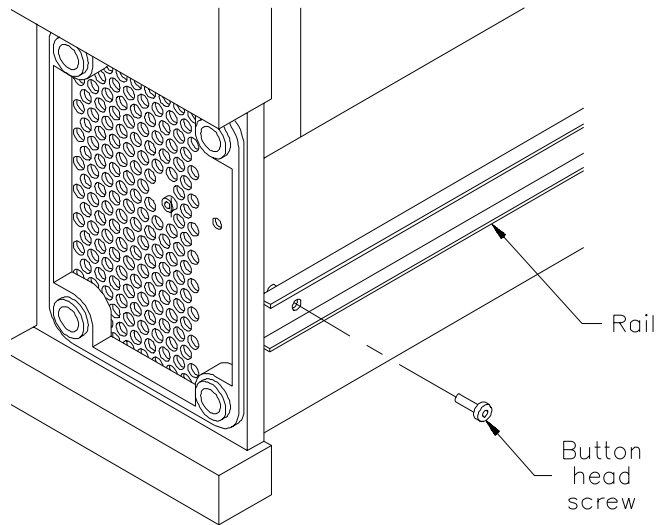

Figure 1-7 Attaching the screws to the sides of the library
6. Install one $8-32 \times \frac{7}{16}$ button head screw into the screw hole on each rail, as shown in Figure 1-7.